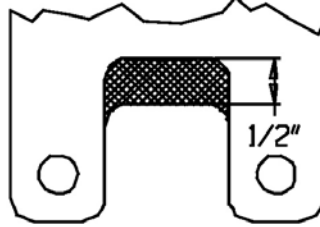

Figure 1 - Throttle Bracket Modification
- **THROTTLE BRACKETS:** Due to the design of Performer manifolds, the throttle and kickdown bracket on some vehicles may require modification to fit. See figure 1 for guidelines or purchase our #8031, 8030 or 8036 throttle, cruise, and kickdown linkage brackets